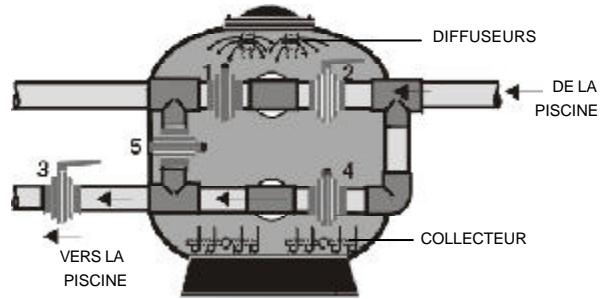

FIG.6
7. CYCLE NORMAL DE FONCTIONNEMENT (FIG 6)